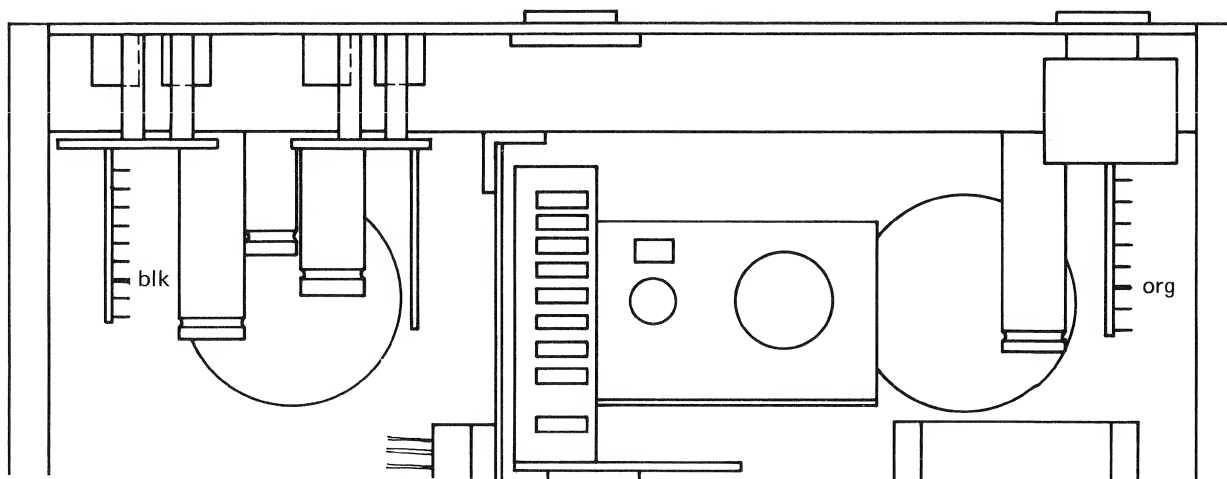

Fig. 5.5.—1
- Zwei-Kanal Oszilloskop anschliessen (Fig. 5.5.—1):
- Connect a double beam oscilloscope as follows (fig. 5.5.—1):